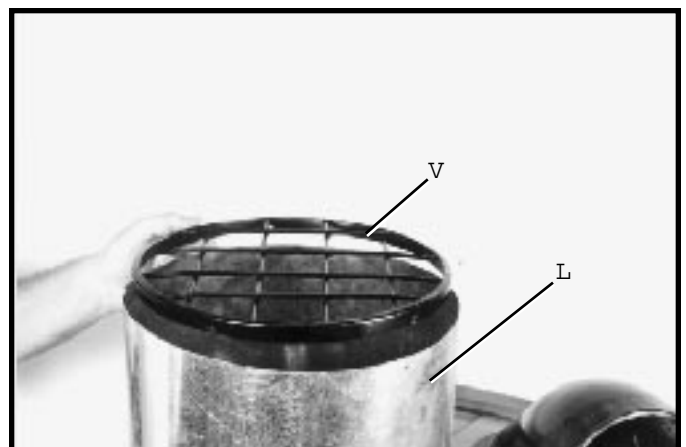

Fig. 11
7. Assemble safety grid (V) Fig. 11, over metal cylinder (L) and fasten grid to cylinder with three pan head screws (W) as shown in Fig. 12.